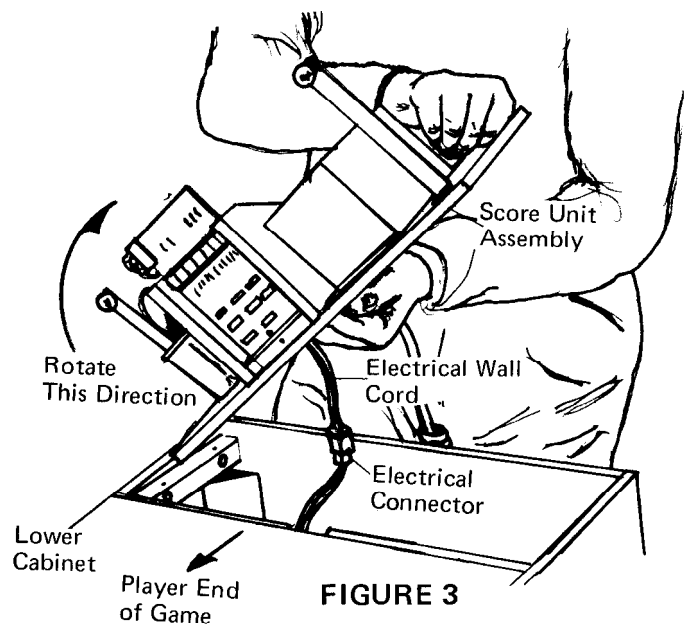

FIGURE 3
9. Standing at rear of cabinet, carefully lift the scoring unit straight up until the entire score unit assembly is clear of the lower cabinet. Turn score unit over, in a counter-clockwise direction, as shown in Figure 3. Reattach the score unit to lower cabinet with the two (2) Phillips Screws saved from Step No. 7.